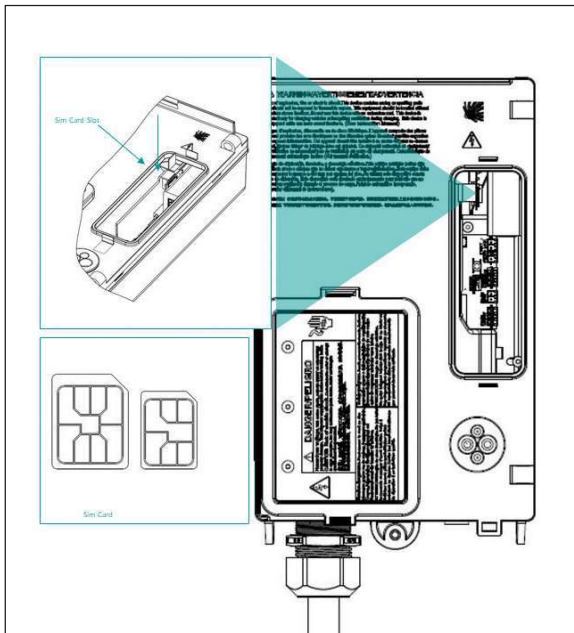

Figure 11. SIM card installation
1. Expose the area holding the SIM card hardware by unlatching the cover. The SIM card sits next to the Ethernet connection (see Figure 11 – SIM card installation).